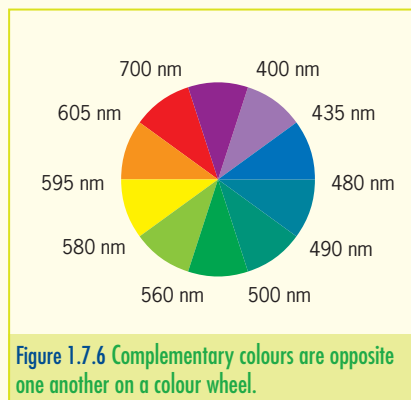

Figure 1.7.6 Complementary colours are opposite one another on a colour wheel.
For example, if a complex ion absorbs light of a wavelength of 450 nm in the blue range of visible light spectrum, then the ion appears yellow, its complementary colour in the opposite segment of the colour wheel (see figure 1.7.6). Similarly, for the hexaaquacopper(II) ion to appear blue it must absorb light with a wavelength between 580 and 595 nm.